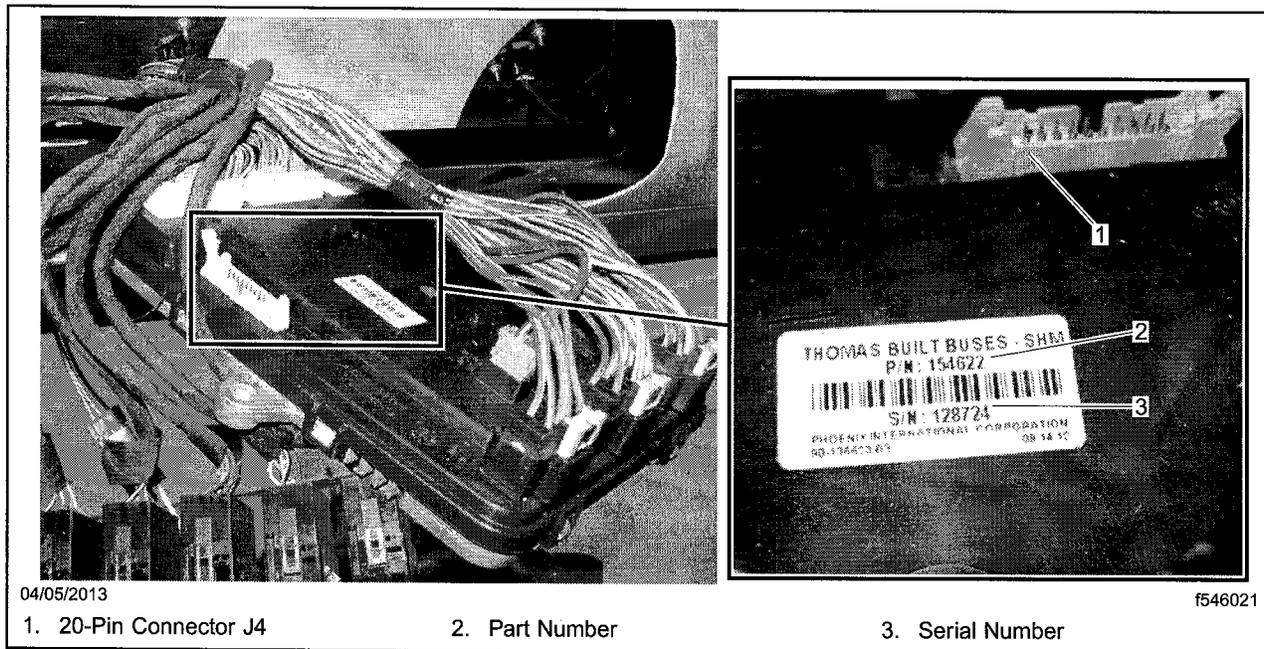

Fig. 2, SHM Label Inspection
5. **Inspect the label on the back of the SHM for the serial number. See Fig. 2.**